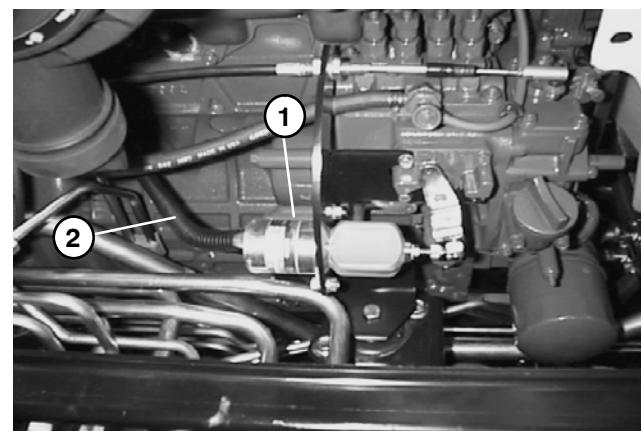

Figure 13
- B. The engine run solenoid (Fig. 13).